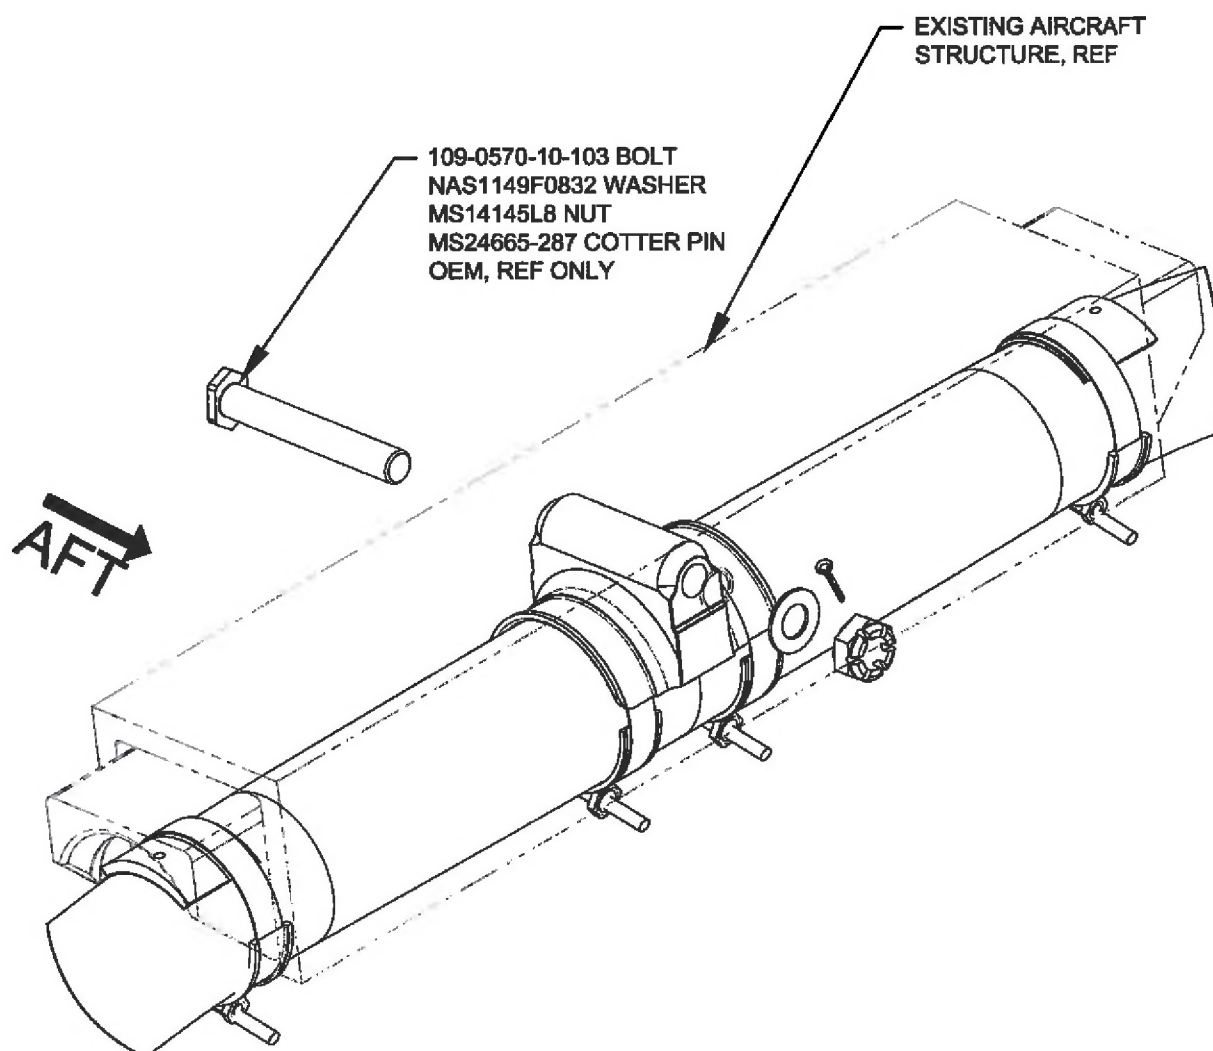

Figure 3.3 – D119-796-201/-203 Aft Crosstube Installation
- 3.1.4 Position the assembled gear under the aircraft and loosely install the aft crosstube using OEM hardware in accordance with Aircraft Maintenance Manual (reference Figure 3.3). Do not install OEM M031-01S011-101 Lower Support or associated U-bolt fasteners.